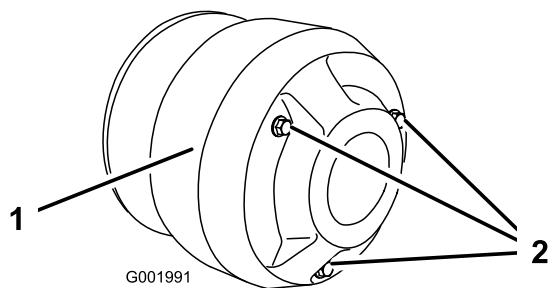

Figure 57
4. Remove the 3 bolts securing the cover to the clutch and remove the cover (Figure 57).